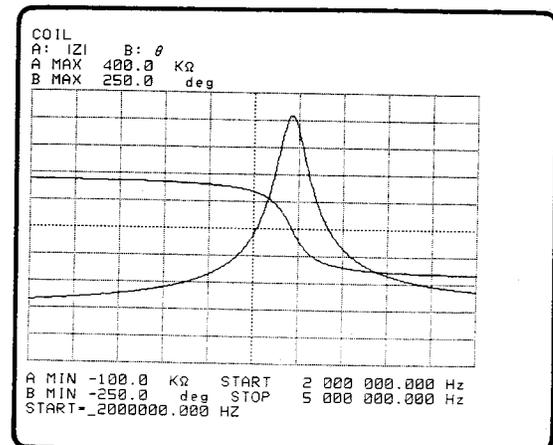

Figure 3-117. Sweep Start
- 1) Using the **FUNCTION** and **SWEEP** keys and their **START** softkeys ("START= (current value)" will be displayed on the Keyboard Input Line as shown in Figure 3-117), select the appropriate sweep type and sweep parameters, then press the **START** key.